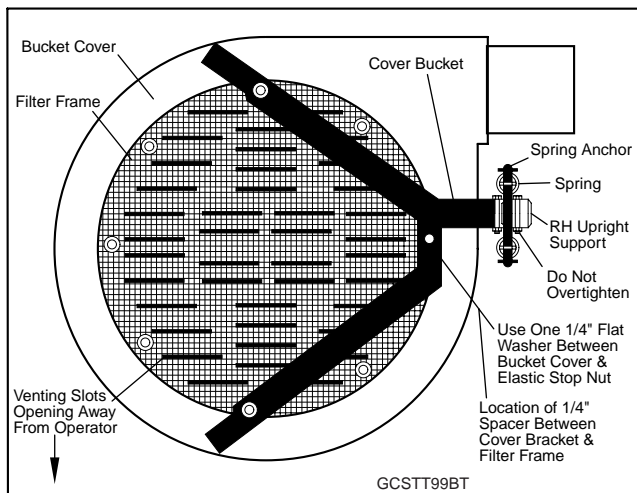

Figure 3, Bucket Top
1. Align the holes in the filter frame (item 74) with the holes in the molded top (item 70). Be sure the venting slots are pointed away from the operator. (see figure 3)
2. Align the three holes in the cover bracket weldment (item 56) with the correct three holes in the filter frame and the molded top as shown in figure 3.